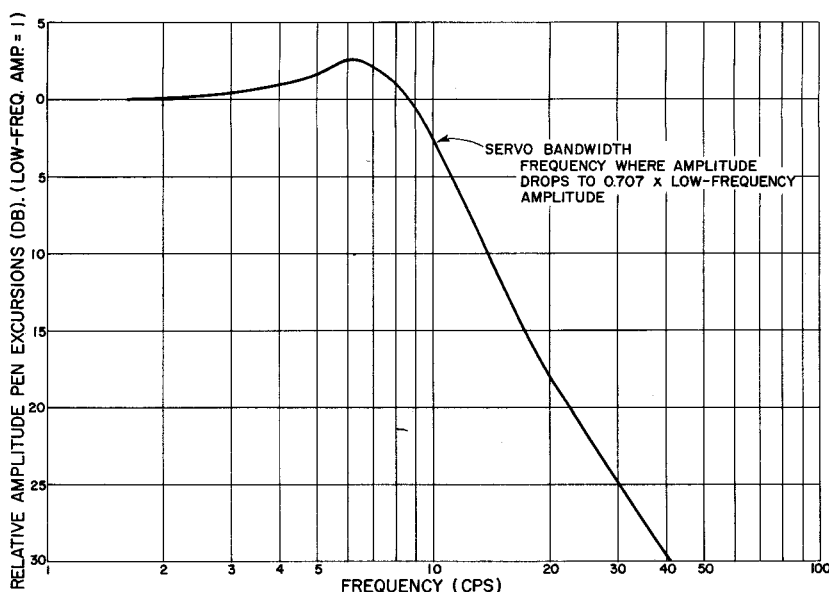

Figure 4.8. Servo frequency response.
**4.10 SERVO BANDWIDTH.** Servo bandwidth in a level recorder is defined for the motion of the pen, and is independent of the frequency response of the ac amplifier (7 cps to 200 kc). The servo acts as a low-pass filter, with the pen following level variations up to frequency cutoff. The cutoff frequency or servo bandwidth is the frequency at which the amplitude of the pen excursions drops to 0.707 times the amplitude at low frequencies (see Figure 4.8). The servo bandwidth is a useful indication of the recorder capabilities for small variations in amplitude.